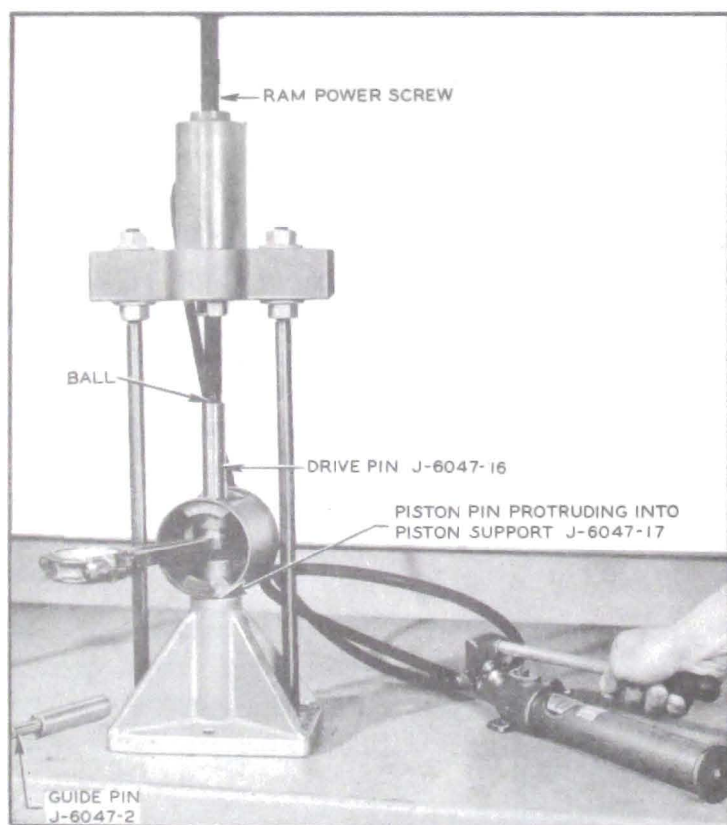

Figure 2-33—Piston Pin Removal
8. Place piston and rod assembly in press, see figure 2-33. Using Piston Support J-6047-17 (with full radial face up) under the piston, place Drive Pin J-6047-4 in upper end of piston pin and press pin from rod and piston. Guide Pin J-6047-16 is not used during pin removal. See figure 2-33.